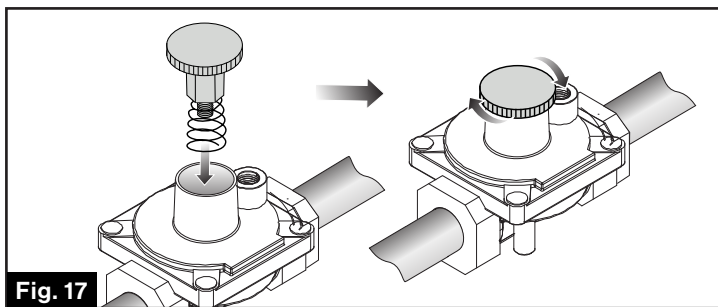

Fig. 17
- Insert the regulator cap and screw the back into the regulator by clockwise and re-attach the regulator to the nipple and flare union. (Fig. 17)